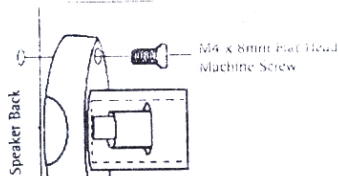

Figure 2
3. Some speakers use the smaller M4 x 8mm hardware, which is inserted into the off-center hole on the mounting post (Figure 2).